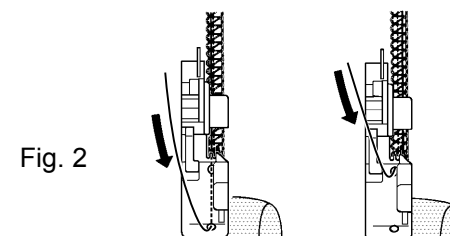

Fig. 2
3. Insert the cord through either the front or rear hole (according to the operation, see diagrams Figures 2 and 3), in the presser foot and pass it under and to the rear of the foot.
FOR JOINING SHOULDERS OR SLEEVES, pass the cord through the front hole, ensuring that it is fixed between the left and right needle threads as it is guided through the front hole. (Fig. 2).